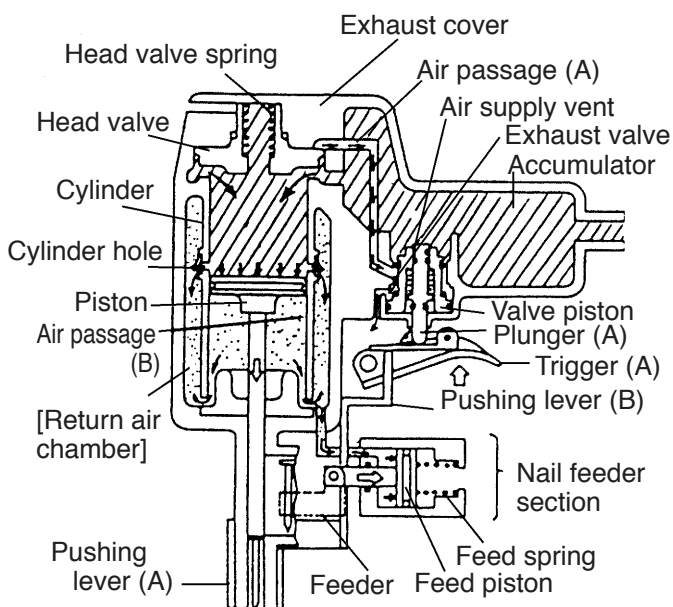

Fig. 9 During nailing (I)
(2) During nailing (I) (See Fig. 9.)